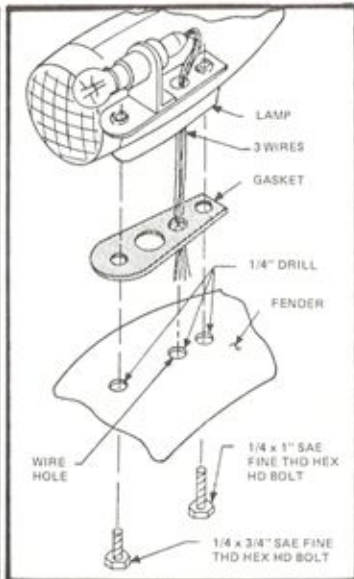

Figure 64
- Using the rubber gasket as a guide, locate the holes for the parking light on the top of the front fender. Move the gasket back and forth until the extreme top of the fender is found. (Figure 64) Drill as indicated for two mounting screws and wires. (1/4"). Attach leads to lights at this time to facilitate hook